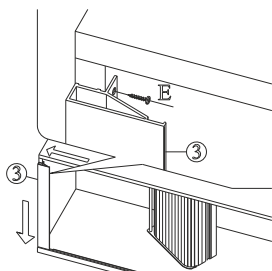
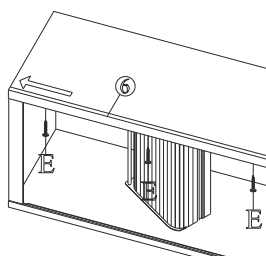

Fig.3
Fig. 4
3. Similarly fix the Top track and Right track as shown in Fig.3 and Fig.4. respectively.